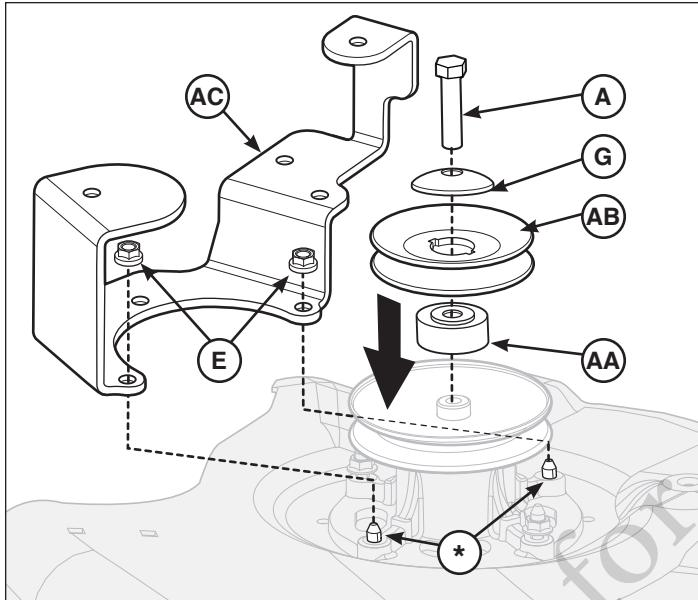

Figure 4
1. Assemble spacer (**AA**, Figure 4), turbo drive pulley (**AB**), spring washer (**G**) and capscrew (**A**) to existing pulley on mower. Use a wood block to prevent blade rotation and torque capscrews to 50 - 60 ft. lbs. (67.7 - 81.3 Nm).